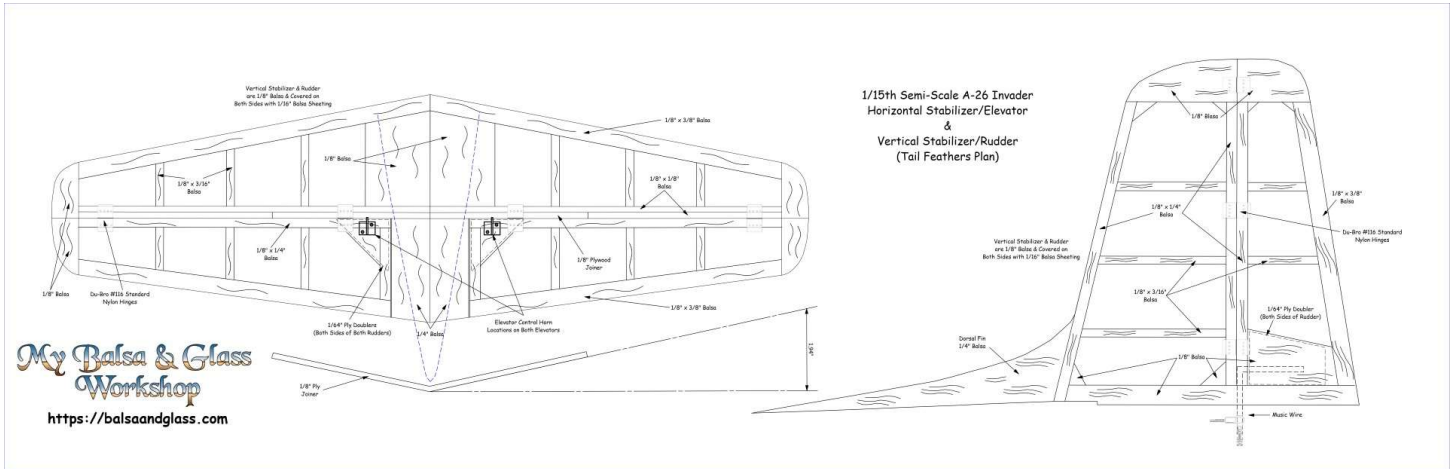

Figure 8 - Tail Feathers Plan
**Now the real fun starts.** As indicated earlier, I used other A-26 model plans and my **"modified"** model plans I have worked from for my other scratch builds (like the OA-1K Skyraider II) and started to lay out the various plans for the A-26 Invader. Since the tail feathers were fairly simple; this is where I started my first plan sheet. After a few hours each morning at my desktop computer keyboard/mouse, the results of my efforts are displayed in Figure 8.